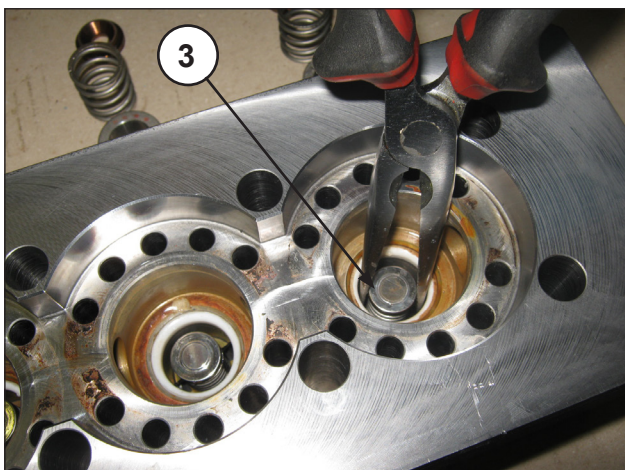
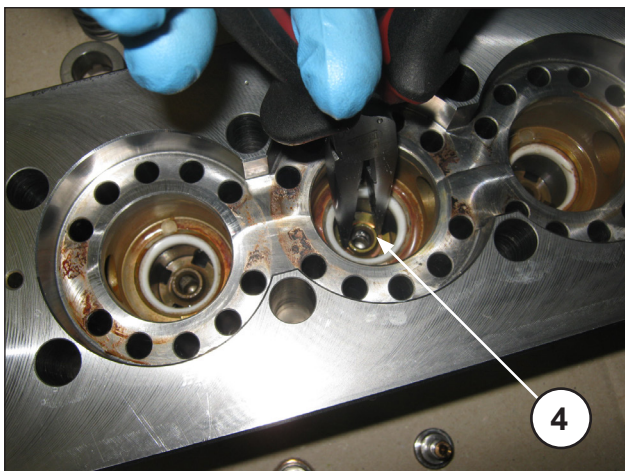

Fig. 27
Fig. 28
- Extract the outlet plates ③ and their guides ④ with the springs, as shown in Fig. 27 and Fig. 28, check for wear and replace if necessary, and in any case within the times indicated in the "PREVENTIVE MAINTENANCE" table of chapter 11 in the *Use and maintenance manual*.